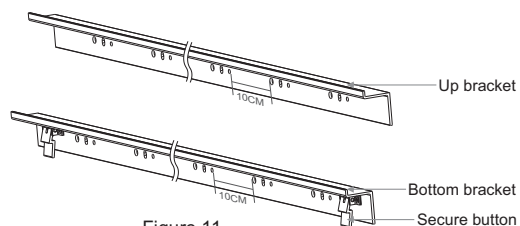

Figure 11
4. There is locking system on the Bottom bracket but no on the Top bracket, brackets' length are at half of Horizontal frames'. And there is 5 groups of holes on each brackets with 10cm distance, each group has 3 holes at $\varnothing 5$ $\varnothing 8$ & $\varnothing 6$ from left to right. Brackets are suggested to mount at the middle point of frame with only 30% fluctuation if needed. (Figure 11)